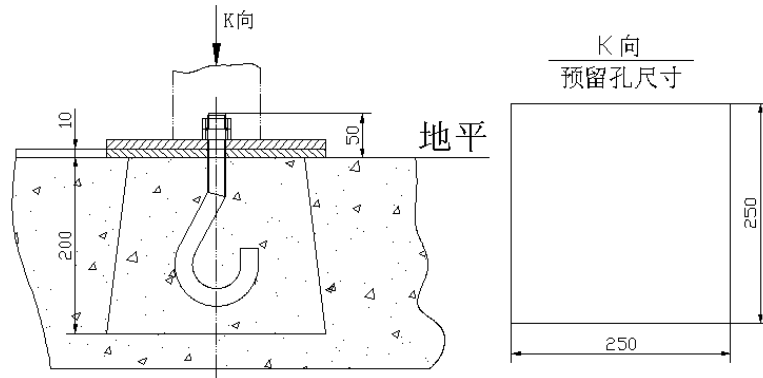

Figure 8 Embedded bolt foundation
1. This machine should be generally installed on the solid level foundation and tightened with anchor bolts. If the workshop ground is solid, foundation need not be constructed separately. The machine can be fixed on the workshop ground directly with expansion bolts or in other ways. Or should make the foundation per Figure 8, the anchoring bolt dimension and the reserved openings for material inlet and outlet is per Figure 9.